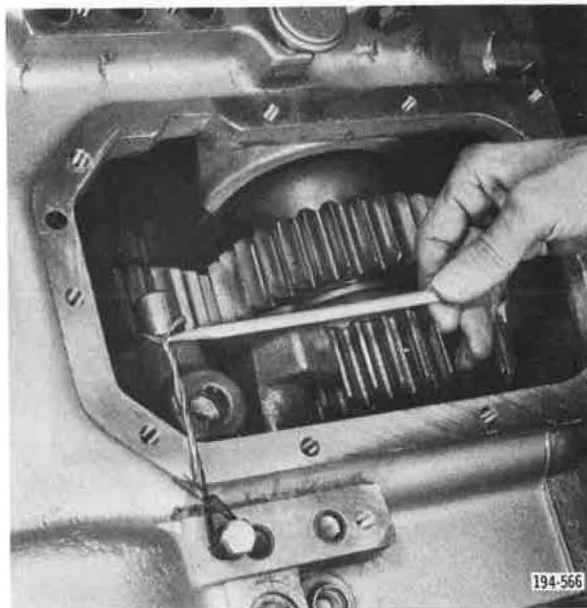

Figure 5-532. Wire Holding Shift Fork.
4. Remove wire previously installed to hold Direct/Lo-range shift fork. See Figure 5-532.